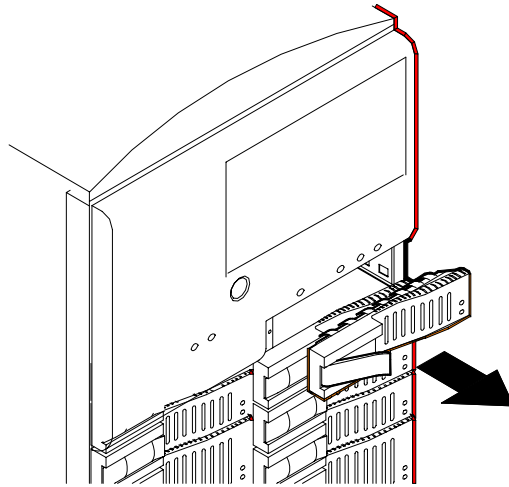

Figure 4-2. Removing the Disk Carrier's Front Panel
- Pull the handle out of the disk bay cover and remove the cover from the SCSI hard disk drive bay. See Figure 4-2.